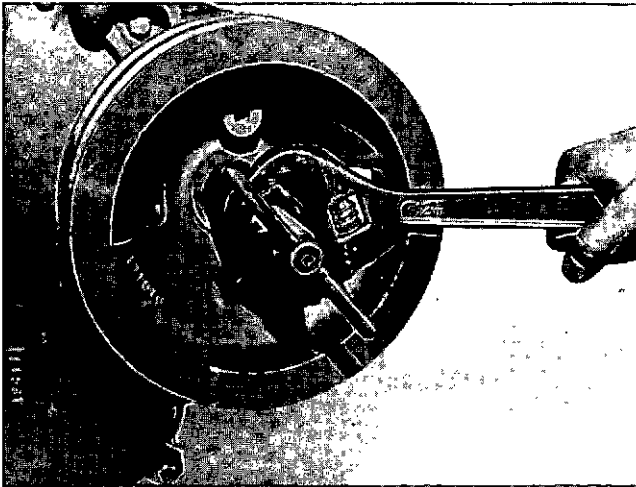

Fig. 14-1-54, V414154. Installing water pump drive pulley
3. Install water pump drive pulley and press in position with ST-386. Fig. 14-1-54.